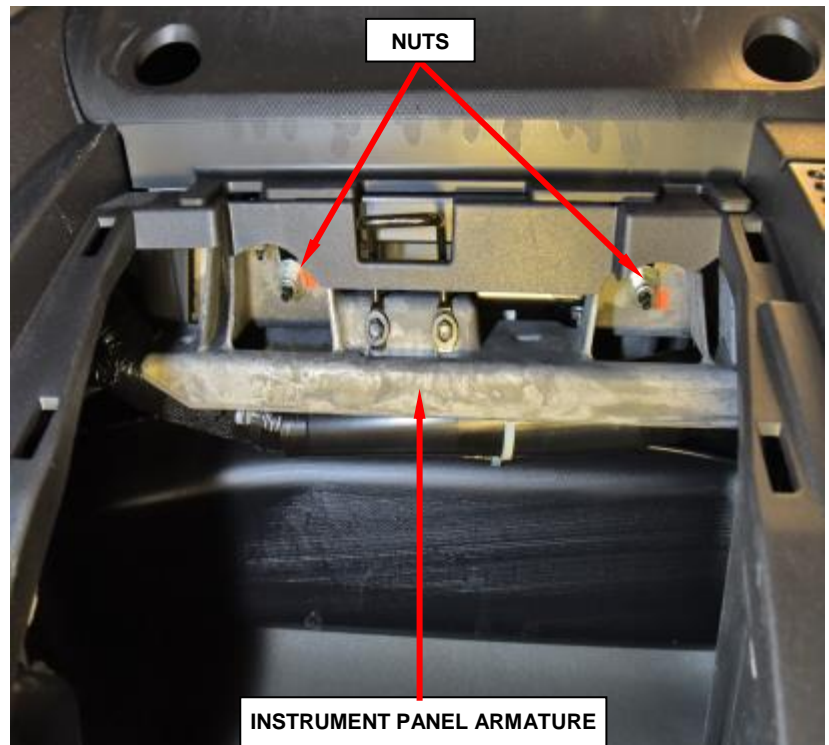

Figure 102 – Lower Passenger Airbag Nuts
6. Reach up into the instrument panel glove box opening to access and remove and **save** the two nuts that secure the passenger airbag lower studs to the instrument panel armature on each side of the glove box latch striker (Figure 102).